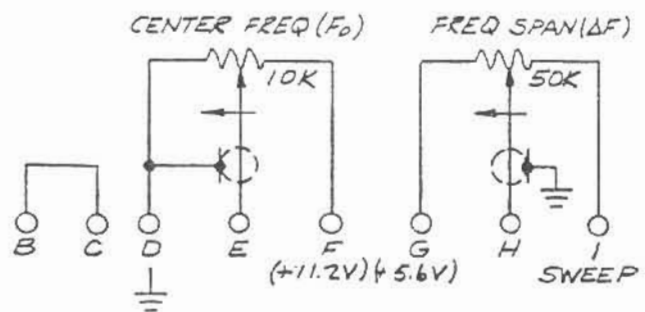

Figure 2-5 Potentiometer Connections for Remote F_0 and ΔF Programming
3. Connect a 10,000 and a 50,000 ohm potentiometer as shown in Figure 2-5.
Both potentiometers should be linear so that the percentage of resolution equals the percentage of the RF Plug-In frequency band. The indicated resistance shown in Figure 2-5 must be observed for optimum results.